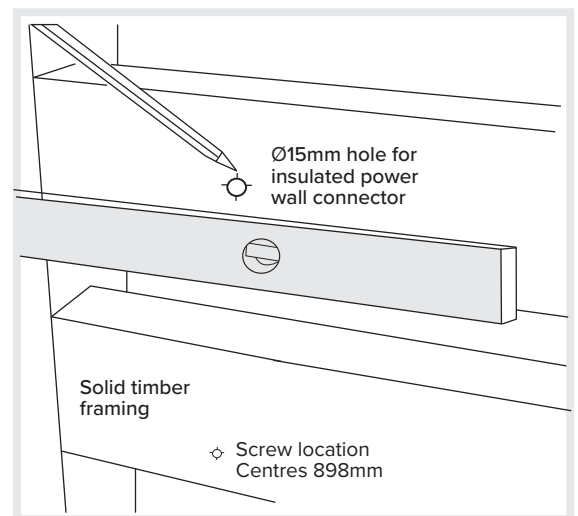

Figure 2.0
- Use a level to make sure that these holes are plumb. See *Figure 2.0*